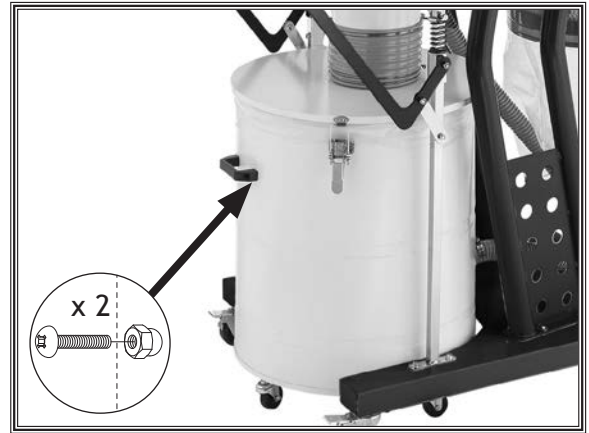

Figure 22. Collection drum handle attached.
20. Attach handle to collection drum using (2) 1/4"-20 x 5/8" Phillips head screws and (2) 1/4"-20 acorn nuts (see Figure 22).